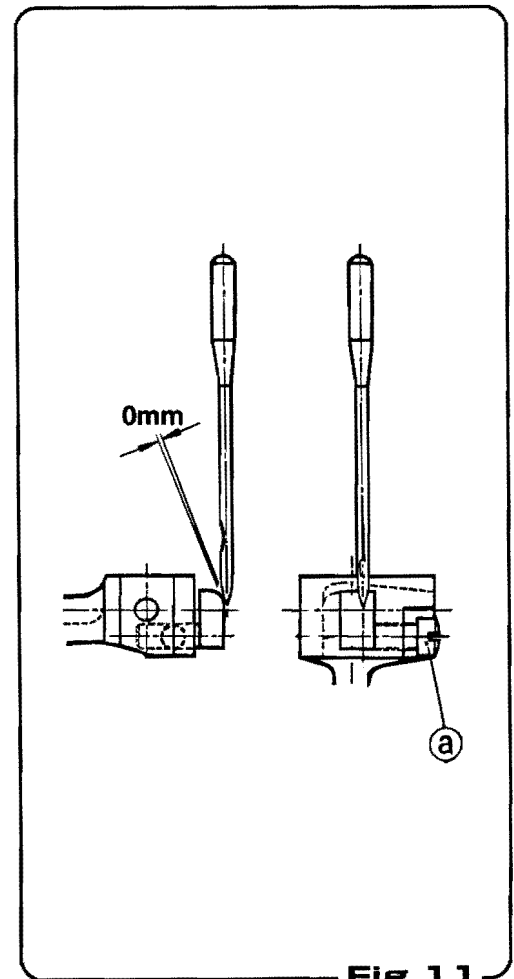

Fig. 11
When the stitch width is changed, the needle guide must be adjusted accordingly, as the clearance between the needle guide and the needle will change. Turn the pulley in the forward direction after loosening the screw (a) of Fig.11 and adjust the clearance between the needle and needle guide to zero when the end of the looper comes to the side of the needle, as shown in (Fig.11) and tighten the screw (a).
- * 針ガイドが最も前進したときに (Fig.11) の示すように針との間隔が0mmになるようにネジ(a)を緩めて調整します。